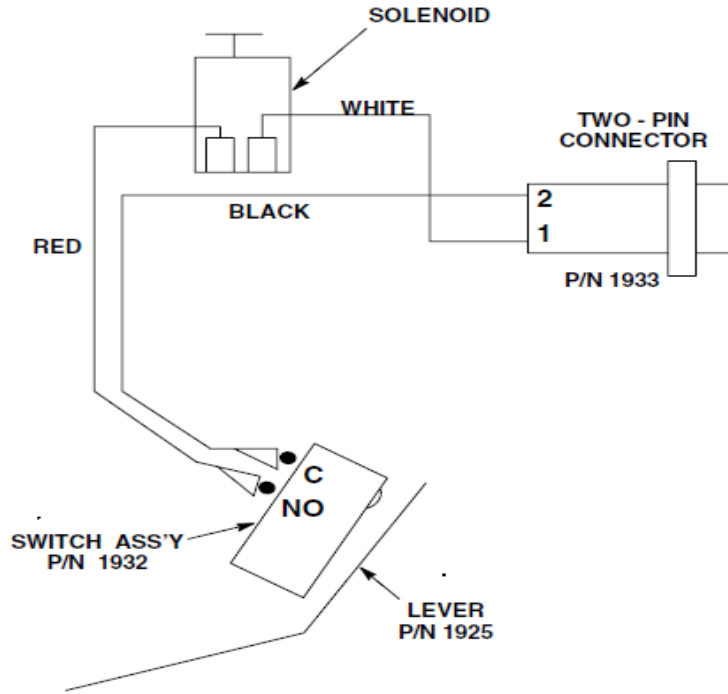

Figure 1.
2. Tag electrical wires for identification. Then disconnect Control module wires from solenoid coil and unit wiring harness connector. See electrical diagram, Figure 1, 2, 3, 4.